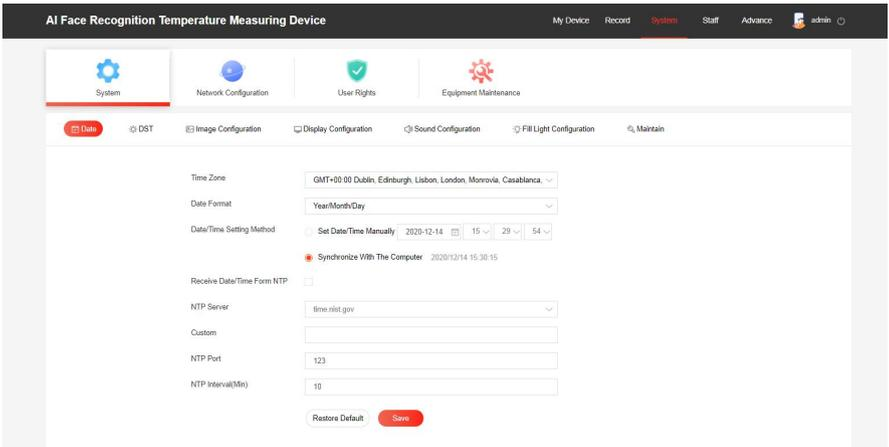

Figure 7-5
Step 1: After logging in to the web page, click "System → System → Date" to enter the date setting interface, as shown in Figure 7-5 below.